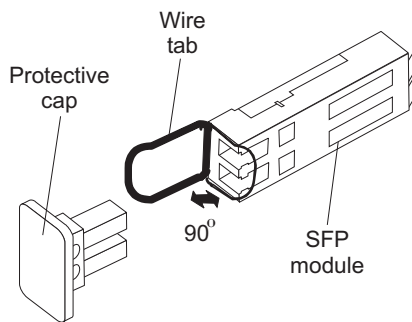

Figure 26. Installing an SFP module into the host port
4. Insert the SFP module into the host port until it clicks into place. See Figure 26.